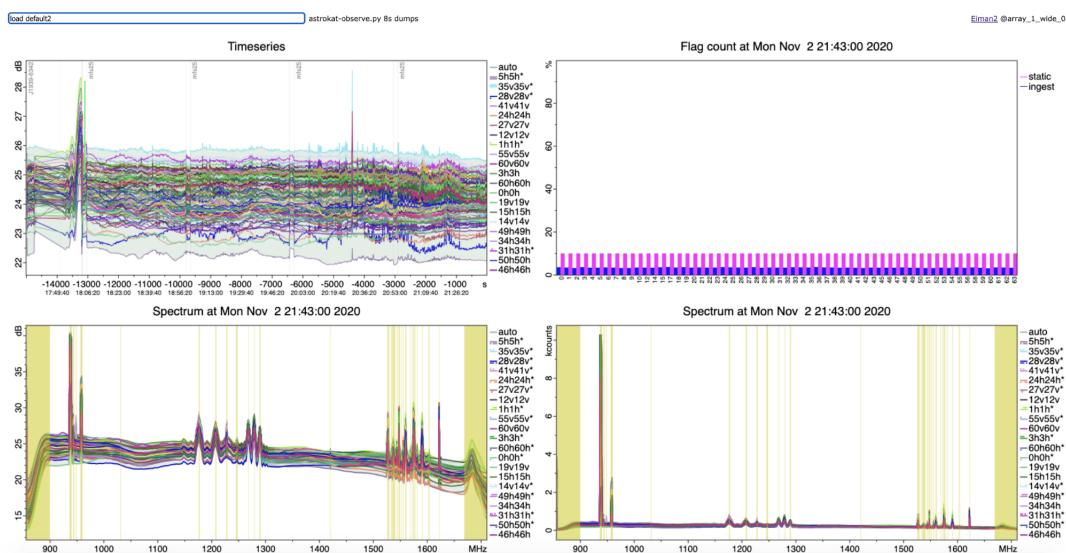

Figure 9.8: Default signal display
- Type ‘load default2’ on the command line of the signal display **Figure 9.8**.